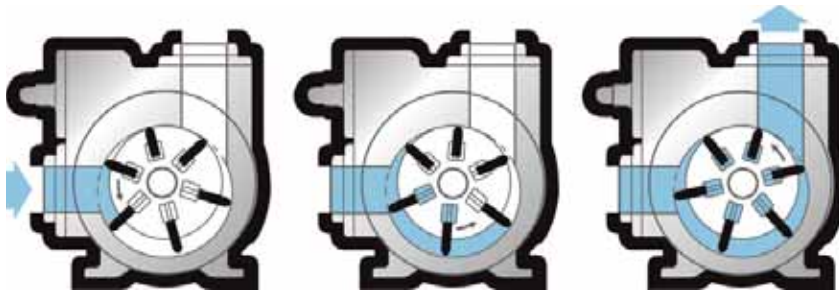

Figure 1. Sliding vane principle
Specifically, sliding-vane pumps have a series of vanes that freely slide in or out of slots in the pump rotor (Figure 1). The pump’s rotation draws liquid in behind each vane, through the inlet port and into the pumping chamber. As the rotor turns, the liquid is transferred between the vanes to the outlet where it is discharged. Each vane provides a positive mechanical and hydraulic displacement of the liquid. Vanes are actuated by three forces: (1) centrifugal force from the rotor’s rotation, (2) push rods moving between opposing pairs of vanes and (3) liquid pressure entering through vane slots and acting on the rear of the vanes.